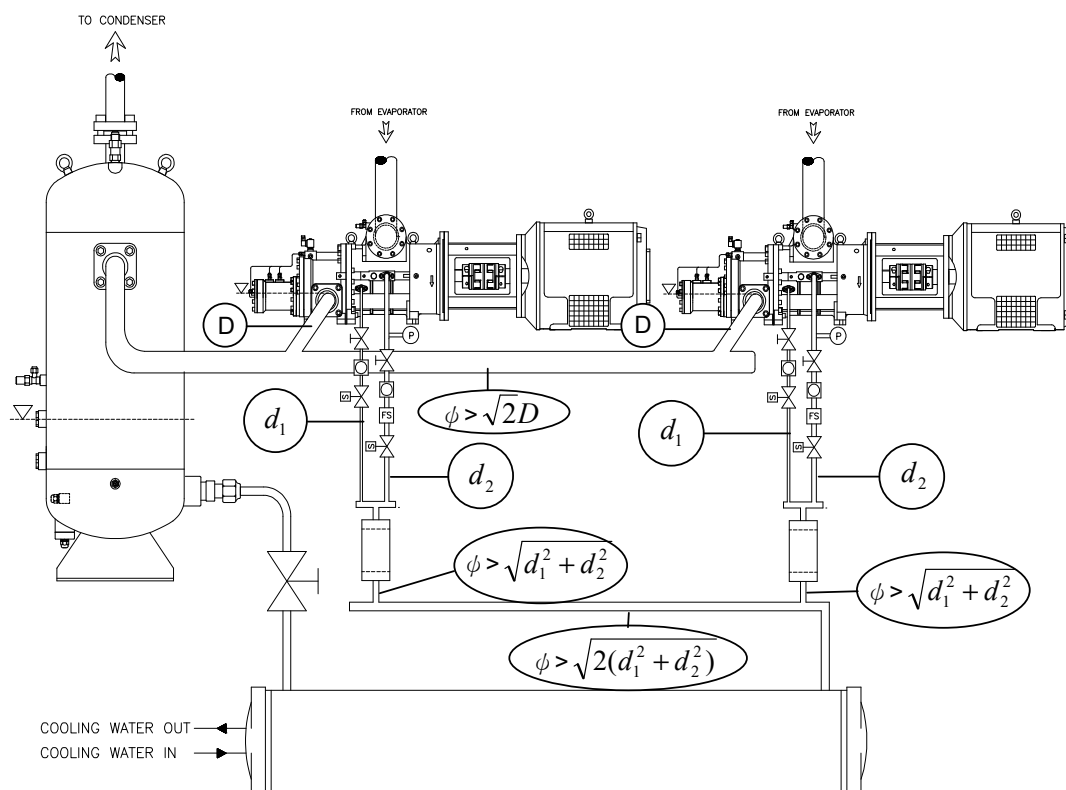

Figure 6.15: Piping arrangement and design for parallel circuit
For parallel circuit of compressors, a discharge header between the discharge line and the oil separator is very important. The discharge line should have sufficient falls to the discharge header to ensure free drainage in the future. Please refer to Figure 6.15 to see the piping arrangement and design for parallel circuit. In order to protect the compressor away from backward running when it is not working, using a check valve at discharge
3. The oil main pipe (header) size shall refer to Figure 6.15 to ensure minimum pressure drop and sufficient oil supply to each oil port.